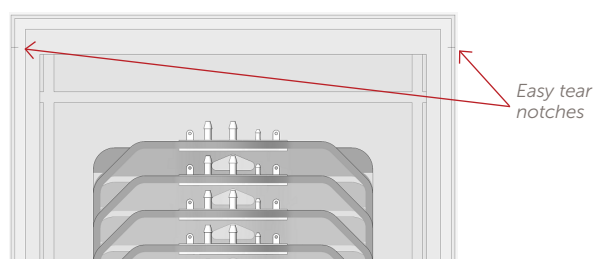

Figure 2. Easy tear notches
2. There are two sealed bags protecting the Aramus subassembly. To open the outer bag, grip the side of the protective packaging bag and use the "easy tear" notches, Figure 2, to pull in opposite directions, allowing the top section and main body of the packaging to separate and subsequently open the bag. Repeat this procedure to open the inner protective package.